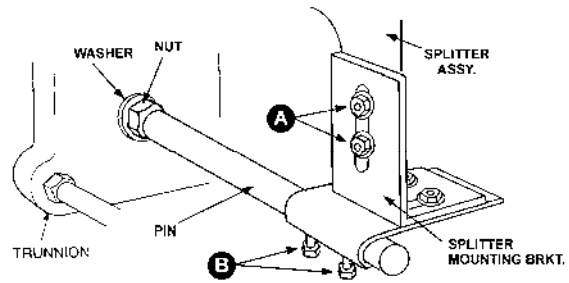

Figure 18
2. Attach splitter mounting bracket to saw trunnion using pin, nut and washer as shown in Figure 18. Insert the pin into the trunnion hole until it is flush on the other side, then hold a wrench on the flat of the pin to stabilize it, while tightening the nut counterclockwise. The upper bracket is secured to the lower bracket with four 5/16-18 x 1 screws, four 5/16 flat washers, and four 5/16 hex nuts.
3. Loosen top screws (A) on the mounting bracket, and the screw (C) on the inside splitter mounting plate, as shown in Figures 18 and 19. The slotted legs of the splitter assembly will slide onto the screws. (You may need to loosen set screws (B), Figure 18, to slide bracket to required position on pin.)